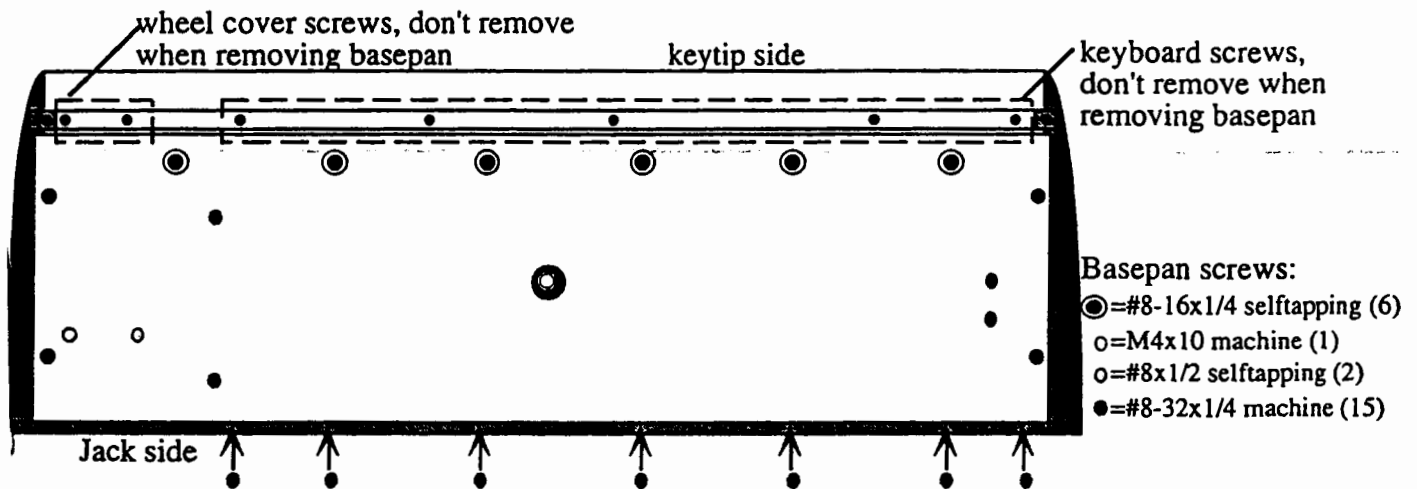
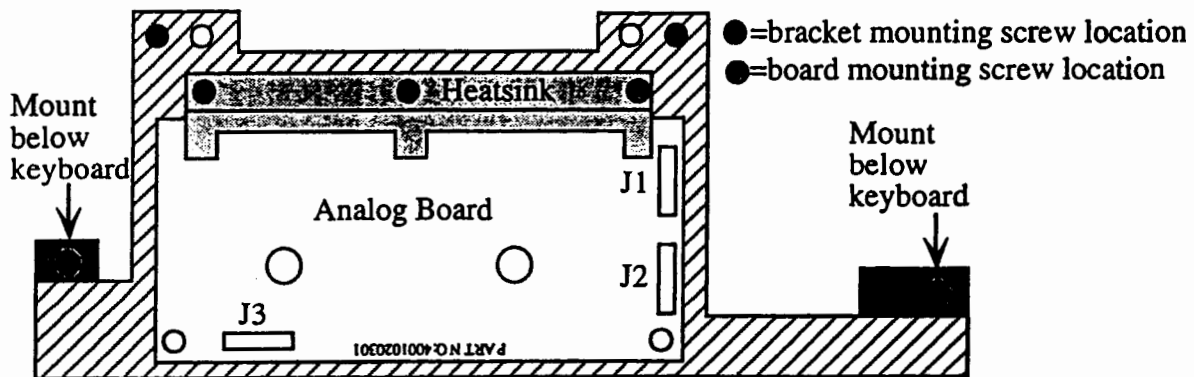

Figure 21 - Bottom View of TS-12
Figure 23 - TS-12 Analog Board Bracket
2. Turn the unit upsidedown and remove the screws from the base and rear panels as shown in Figure 21.
11. Replace all the screws in the base and rear panels. **Note** some screws are self-tapping and some are machine screws. See Figure 21 for location.
4. Remove the three (3) 6-32 SEMs screws (screws with washers attached) from the analog board heat sink to analog board bracket, see Figure 23.
5. Pop analog board off two (2) standoffs by squeezing standoffs with needlenose pliers and remove the board from the unit.
7. Install the three (3) SEMs into the replacement board.
11. Install all the screws into the base and rear panels. **Note** some screws are self-tapping and some are machine screws. See Figure 21 for location.
| Removing | <ol style="list-style-type: none"> 1. Remove all cables connected to the TS-12, including the power cord. 2. Turn the unit upsidedown and remove the screws from the base and rear panels as shown in Figure 21. 3. Using a scribe, disconnect the following cables: <ol style="list-style-type: none"> a) J10 - 20-pin ribbon cable from the jack board to digital board, and b) J9 - 20-pin ribbon cable from jack board to analog board. 4. Remove the four (4) screws that hold the jack board to the I/O bracket and remove the board from the unit. |
| Installing | <ol style="list-style-type: none"> 5. Insert jacks of the replacement board into the I/O bracket. 6. Install the four (4) screws that hold the jack board to the I/O bracket. 7. Reconnect the cables to the J9 and J10 connectors on the jack board. 8. Power on and test the unit. 9. Replace all the screws in the base and rear panels. Note some screws are self-tapping and some are machine screws. See Figure 21 for location. |
| Removing | <ol style="list-style-type: none"> 1. Remove all cables connected to the TS-12, including the power cord. 2. Turn the unit upsidedown and remove the screws from the base and rear panels as shown in Figure 21. 3. Remove the digital board, see Section A. 4. Using a scribe, disconnect all cables and wires from the power supply board: <ol style="list-style-type: none"> a) J2 - 9-pin cable to the digital board (4090020501), b) J4 - 6-pin cable to the keypad/display board (4090020101), c) J3 - 6-pin cable to the analog board (4090020301), d) J1 - 9-pin cable to the transformer, e) X3 and X6 - green transformer wires, f) wires to the power switch: X5 = orange, X4 = white, X1 = blue, and g) X2 - red wire to the line filter. |
5. Remove the two (2) screws that hold the power supply board heatsink to the rear extrusion.
6. Pop power supply board off the two (2) plastic standoffs by squeezing standoffs with needlenose pliers and remove the board from the unit.
9. Install the two (2) screws into the replacement power supply board (see step 5).
13. Replace all the screws in the base and rear panels. Note some screws are self-tapping and some are machine screws. See Figure 21 for location.
4. Remove four (4) screws that hold the analog board bracket (with the analog board still attached) to the unit. See Figure 23.
5. Remove the six (6) screws that hold the bracket that is over the keyboard processor board to the unit.
6. Remove the two (2) screws that hold the small keyboard bracket near the transformer and slide the bracket out of the metal endplate.
8. Remove the five (5) M4 x 10 screws that hold the keyboard to the front extrusion. See Figure 21.
11. Install the five (5) M4 x 10 screws into the keyboard, see Figure 21.
14. Install the other keyboard bracket over the keyboard processor board and fasten it with the six (6) screws.
15. Install the analog board and bracket, see Figure 23.
18. Replace all the screws in the base and rear panels. **Note** some screws are self-tapping and some are machine screws. See Figure 21 for location.